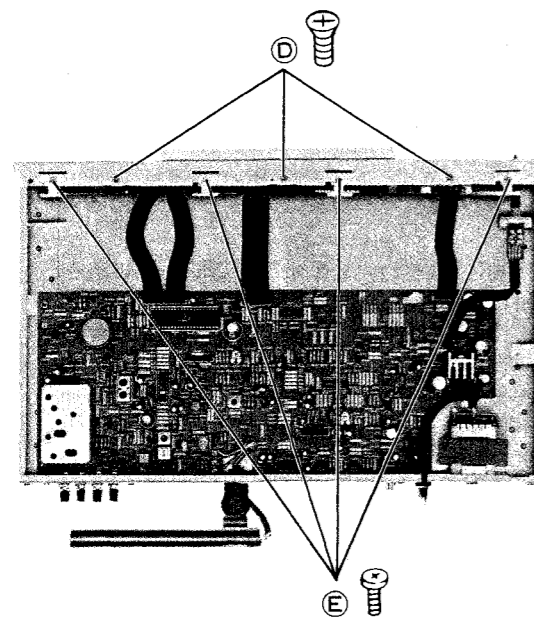

Figure 8
1. Remove four screws (E) (3φ x 6mm) holding the Switch and LED P.C. Board, then Switch and LED P.C. Board and the LED holder can be removed out. (See Figure 8)